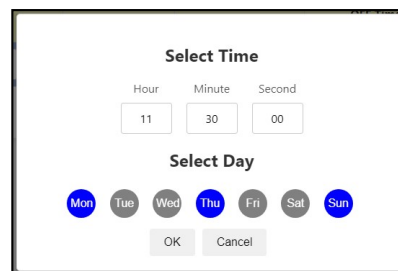

Figure 71: Time and Day Selection for Configuring condition
4. **Select Time:** This parameter allows the user to specify the time required for configuring a Timer condition. Clicking on "Click to Select Time" will open a pop-up window where user will be prompted to enter the time (i.e., hour, minute, second) in 24-hour format. Additionally, user can select the days of the week by clicking on it. The selected days will be shown in blue, while unselected days will be shown in grey, as shown in Fig 71. After configuring the time and day, click the OK button to save the selected parameters.